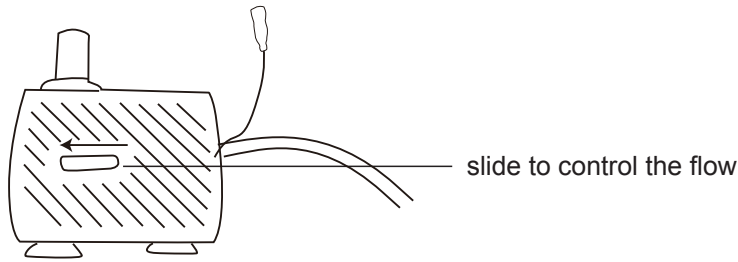

Fig.4
- c) Check the setting of the flow control on the pump as shown in Fig.4. Check the pump outlet nozzle and PVC plastic tube for dirt and debris. Clean if necessary.